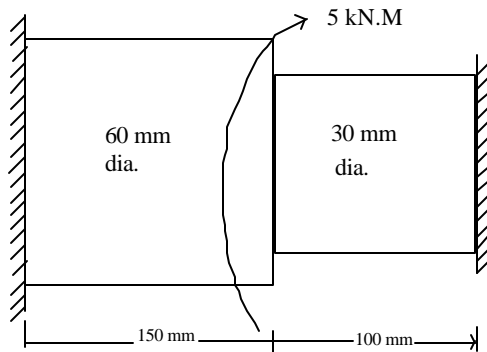

Fig 7(b)
- (b) Determine the angle of twist at the step and the maximum shear stress in each section for the stepped circular bar shown in fig 7(b). take  $G = 77 \text{ GPa}$ .